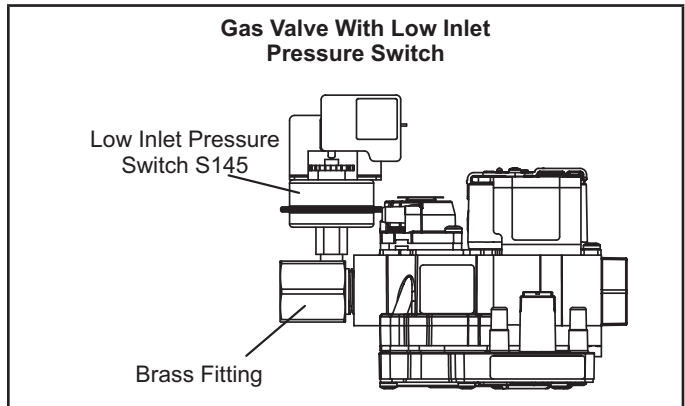

Figure 3
- 11 - Thread provided fitting to gas valve inlet until hand tight. Using properly sized wrench, tighten fitting 2 to 3 full turns being careful to position the side port to allow clearance for the pressure switch and harness. See figure 3 or 4.
*NOTE - Some installations may require the pressure switch and fitting assembly to be positioned differently than shown in figure 3 and 4.*